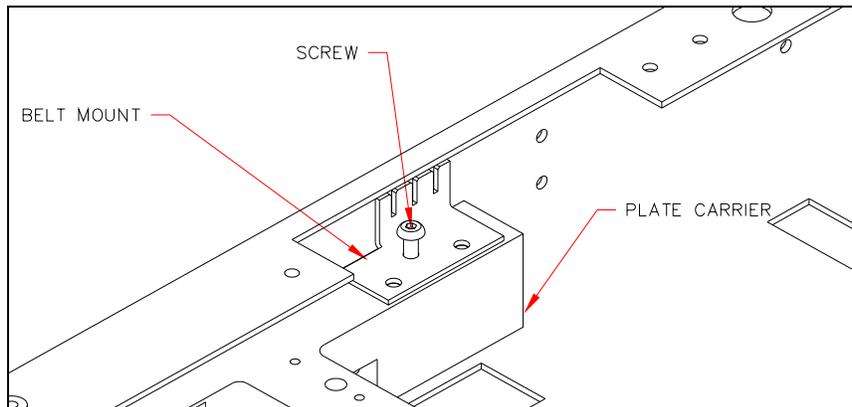

Figure 11-14 Motor Belt Mount
- 1 Remove the Belt Mount from the Plate Carrier Assembly by removing the three M3 x 6mm button head screws (Figure 11-14).